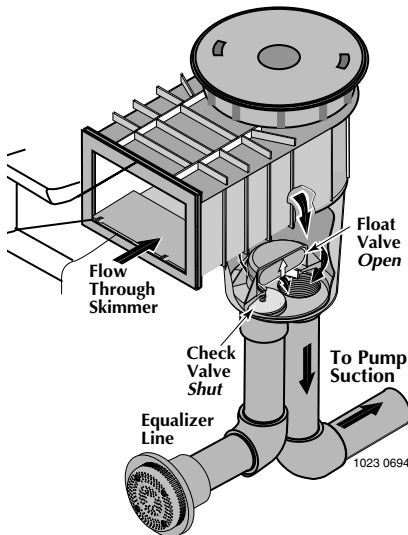

Figure 1: Normal operation: float valve open, check valve shut.
A. Skimmers **without** float: Adjust shut-off valves in pump suction line from skimmer and pool main drain line. (See Figure 1, below.)